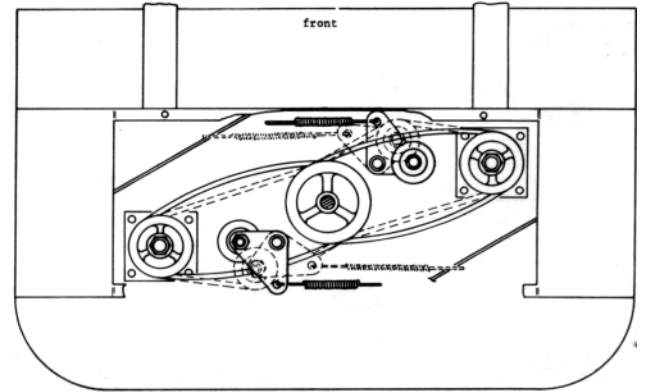

fig 4
6. Set the drive in position on the deck; do not bolt it down. Slip the belts on the drive pulley and then on the rotor pulleys. Let the idlers float at this time; solid lines, fig 4.
8. Working from the sides, grip the springs with a spring puller or clamp-lock pliers or equivalent. Extend the spring hook up, over, and through the spring hole. The belts are now in tensioned running position; dotted lines fig 4.